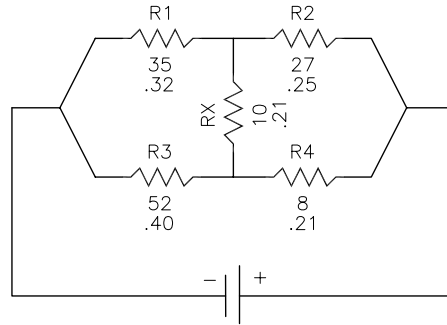

Figure 16-56 Electric circuit diagram with resistors for Exercise 2
3. Repeat the **Insert** tool to insert other blocks, and define their attribute values as given in the table. Save the drawing as *attexr2.dwg*, refer to Figure 16-56.